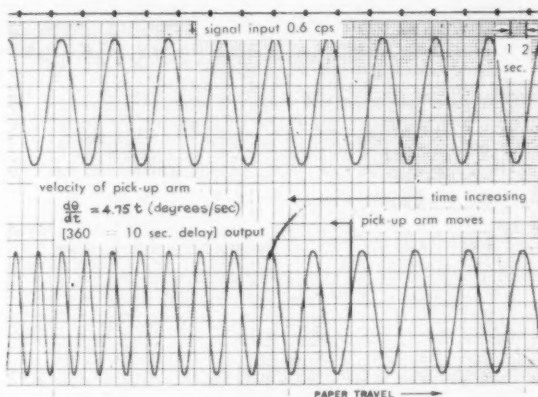

Fig. 14. Effect of varying the delay as the square of time at a rate of .127 sec delay per second. Input signal 0.6 cps
6.2 seconds. Variable delay features are illustrated in fig. 14 where the position servo was fed by a voltage creating a constant wiper acceleration of 4.57 degrees/sec². It should be pointed out that the resulting change to the signal frequency is not the deleterious effect common to magnetic tape methods but results through varying delay time as illustrated in the following: